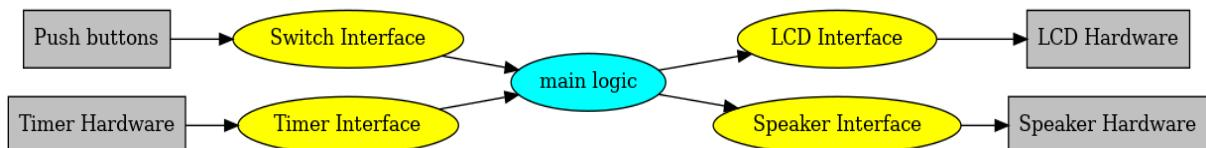

Figure 3.1. Data flows from the timer and the switches to the LCD and speaker.
4. Write software that implements the digital alarm clock. Figure 3.1 shows the data flow graph.